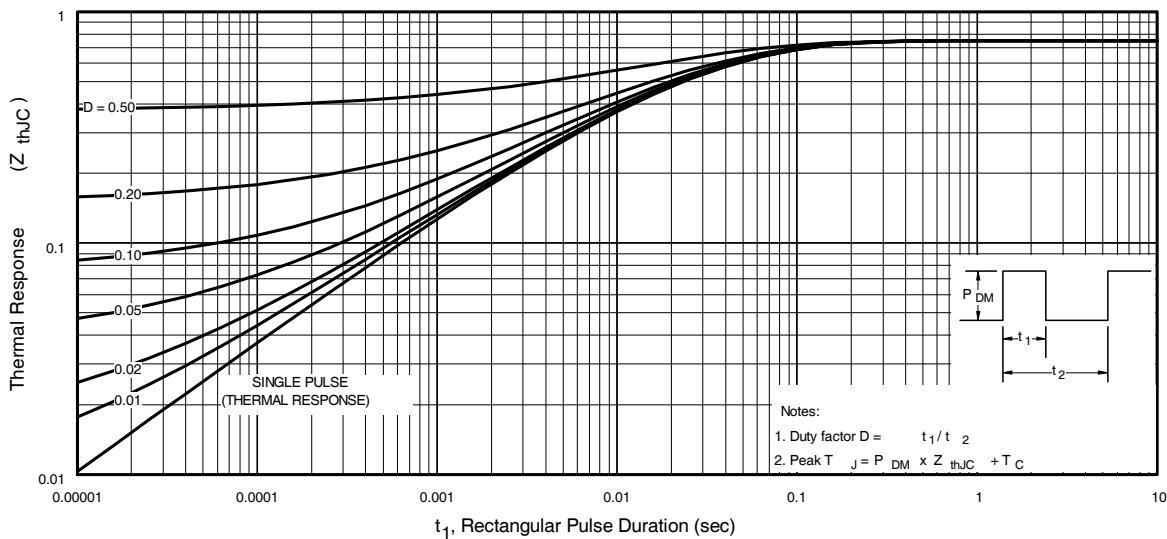

Fig 11. Maximum Effective Transient Thermal Impedance, Junction-to-Case
- ① Repetitive rating; pulse width limited by max. junction temperature. (See fig. 11).
- ② Starting $T_J = 25^\circ C$, $L = 0.130mH$
$Z_{thJC}(D, t_{av})$ = Transient thermal resistance, see figure 11)